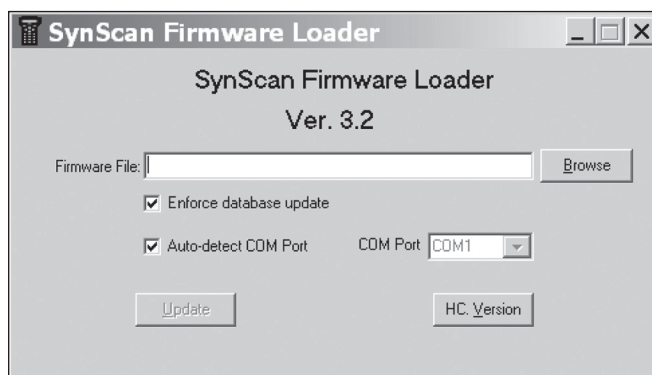

Figure 4. Application window for SynScan firmware loader.
3. On the computer, run the SynScanFirmwareLoader.exe file. An application window is shown in **Figure 4**.